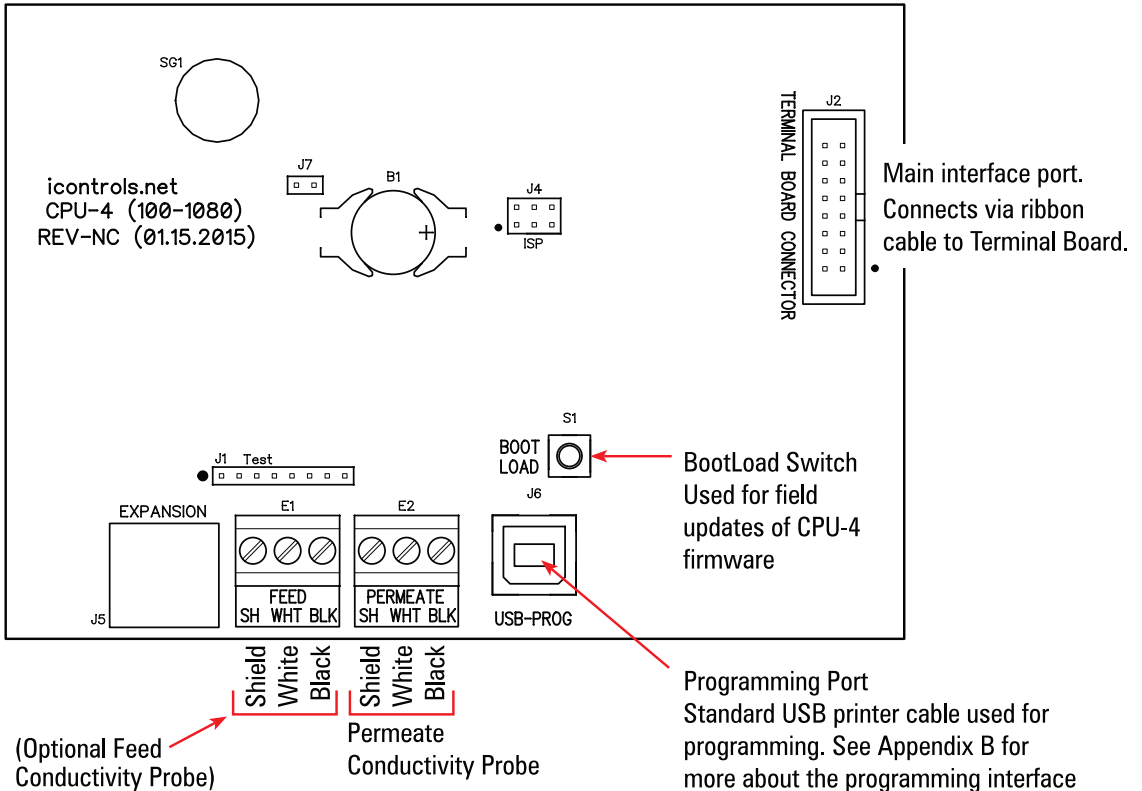

Figure 4 - Controller Detail: Terminal Board, TB-1 (See Fig. 1 for schematic)
- 3 Bring the wires from the peripheral devices into the enclosure and connect them to the appropriate terminals. (See Figure 1, Figure 3 and Figure 4.)
NOTE: **YOU MUST REMOVE THE JUMPER WIRE FROM E23 TO E24** if using a single point High Level RO water shut off float switch control and connect the float switch wires to terminals E23 and E24 (See Fig. 4). If you are using a piggyback float plug leave the jumper wire in place.